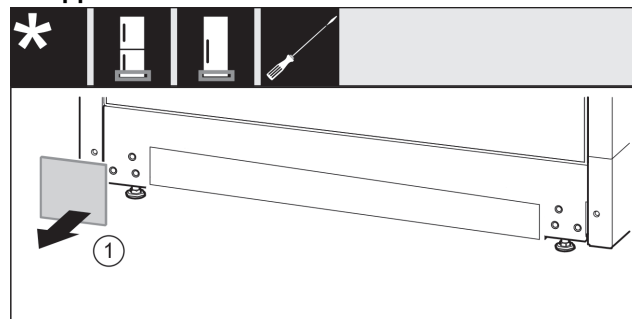

Fig. 16
- Remove the cover *Fig. 16 (1)*.